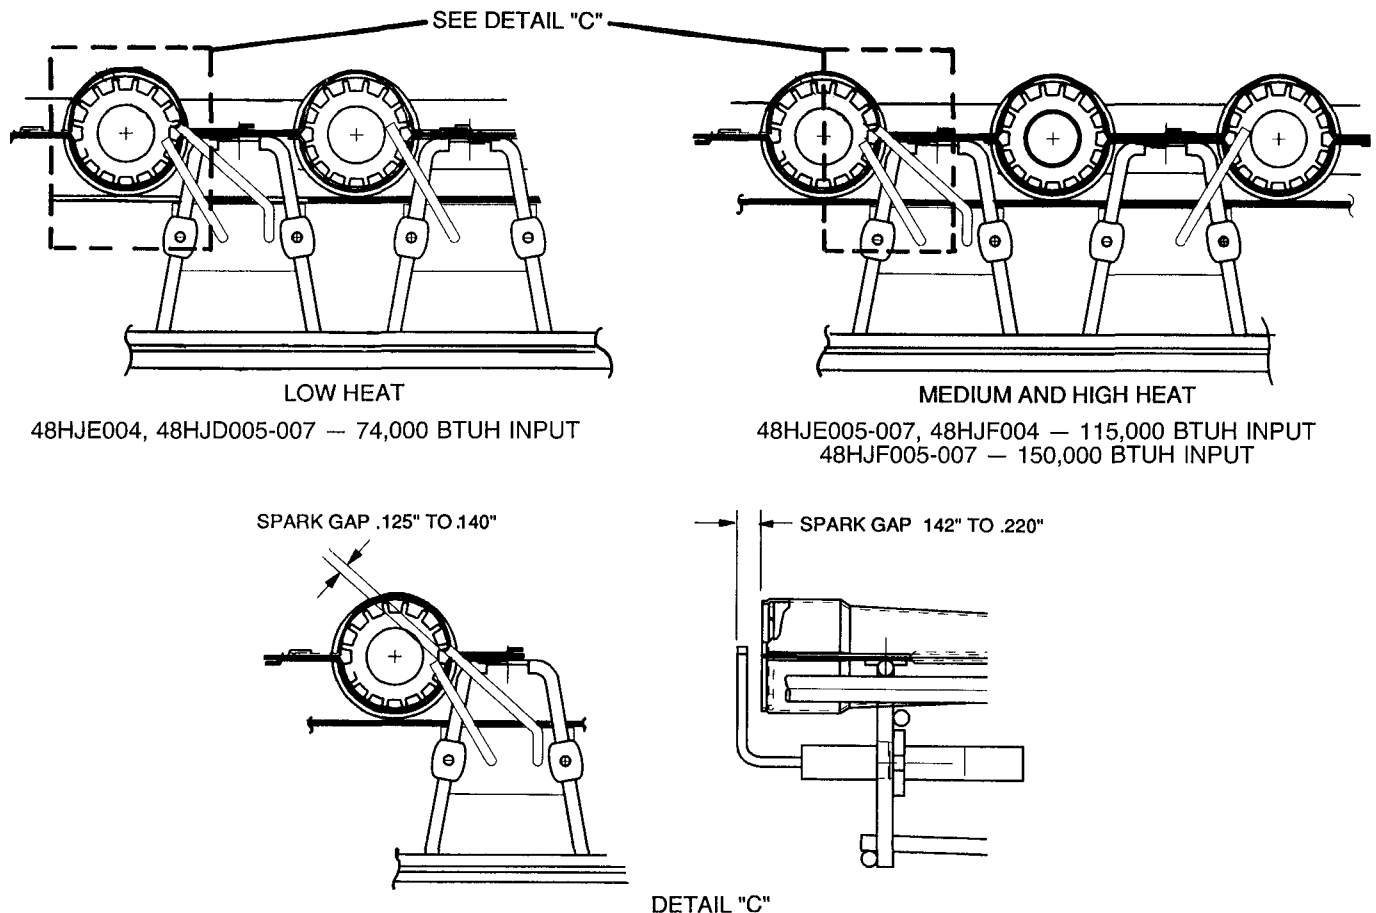

Fig. 34 — Spark Adjustment
4. Adjust spark gap. See Fig. 34.